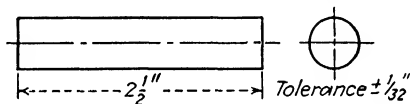
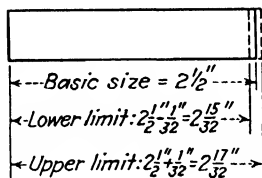

Fig. 44.—Round rod.
Fig. 44a.
A group of apprentice mechanics were given the job of cutting a round rod  $2\frac{1}{2}$  in. long. They had all worked from the drawing shown in Fig. 44. The inspector who checked their work found these measurements:
*Basic dimension* is the exact size called for in a blueprint or working drawing. For example,  $2\frac{1}{2}$  in. is the basic dimension in Fig. 44.
In checking the round rods referred to in Fig. 44, the inspector can determine the dimensions of acceptable pieces of work by adding the plus tolerance to the basic dimension and by subtracting the minus tolerance from the basic dimension. This would give him an upper limit and a lower limit as shown in Fig. 44a. Therefore, pieces measuring less than  $2\frac{1}{2}$  in. are not acceptable; neither are pieces measur-